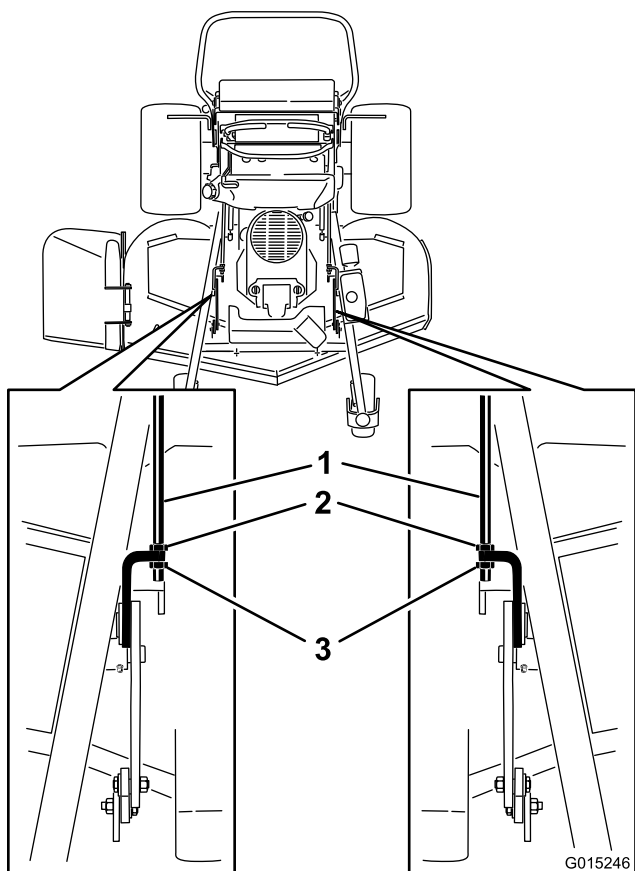

Figure 94
2. For 48 and 52 inch mower decks, loosen both the front and rear nuts on the adjustment rods (Figure 94).
4. The weight of the mower deck must be resting on all three of the 2x4's (Figure 94). The back lip of the mower deck is built a 1/4 inch (6mm) lower than the front lip of the mower deck.
8. If the dimensions are not correct, adjust the front and rear nuts on either side to get the correct front-to-rear pitch (Figure 94).